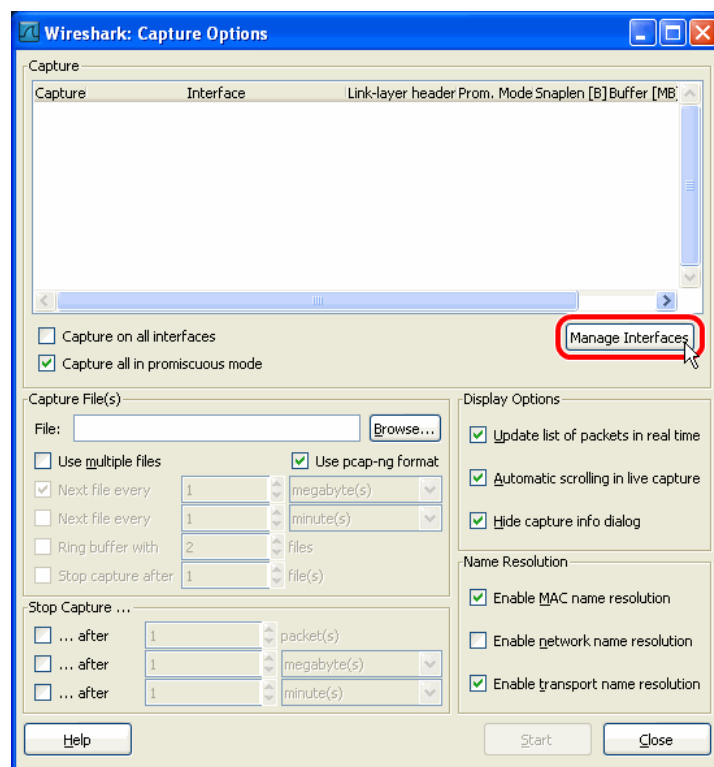

Figure 31: Wireshark Capture Options Dialog.
1. Open Wireshark and choose the menu **Capture** → **Options...**. This opens the **Capture Options** dialog as shown in Figure 31.